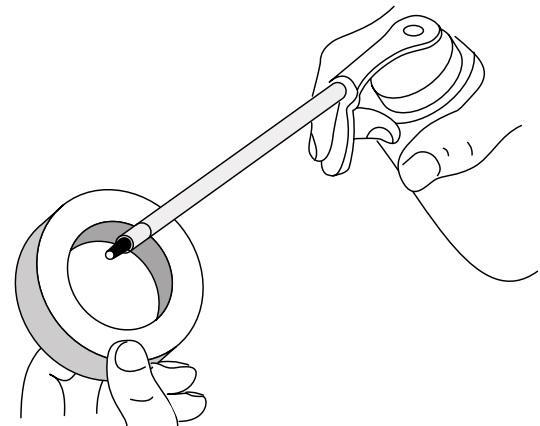

Fig. 31
4. Apply enough clean SAE 30 oil to lightly coat the filter (Fig. 31).